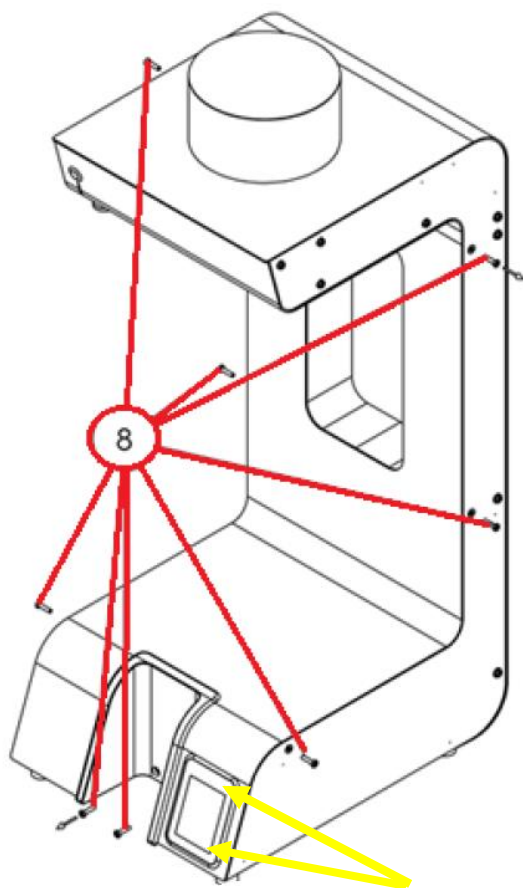

Fig 1.0
- Remove two securing screws in the drip tray as illustrated in Fig 1.0
- Remove the front s/s panel by locating and removing the 6 securing screws as illustrated in Fig 1.0 (8 screws in total, 6 side and 2 in the drip tray.)
- *Please note the front plastic bezel should be orientated with the thicker band to the top and thinner band to the bottom so the screen is facing the right way round. See yellow arrows Fig 1.0*
- Secure all 6 screws once housed correctly on the machine as per fig 1.0.
- Relocate the drip tray recess and secure with the two screws as per fig 1.0.